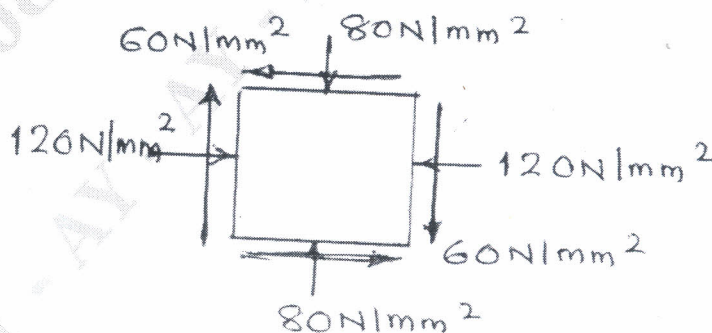

Fig.Q.3(b)
- b. The state of stress in a two dimensionally stressed body is shown in fig. Q.3 (b). Determine the principal planes, principle stresses, maximum shear stress and their planes. (14 Marks)